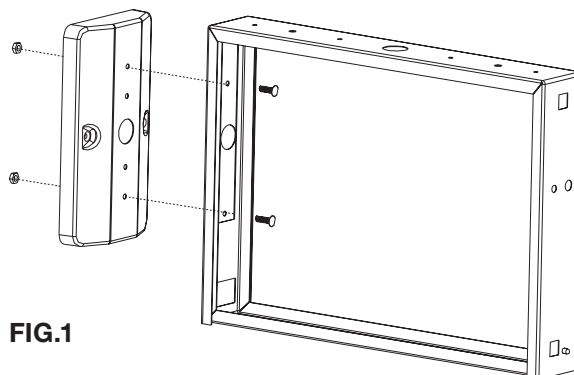

FIG.1
2. Remove the (3) KO's in either the side (for end wall mount) or top (for ceiling mount) of the fixture that lines up with the same holes on the CANOPY/J-BOX COVER. (Note: For CEILING MOUNT, you must remove the INTERNAL TRANSFORMER COVER on the inside top of the fixture. Please re-insert after installation.)
3. Using the (2) 1/2" long 8-32 screws and lock nuts, attach the canopy to the proper area of the exit sign (as shown in Fig. 1).
4. Mount sign to the J-BOX using the (2) 1-1/2" long 8-32 screws, making sure to route the AC SUPPLY wires into the fixture. Use the included 20" jumper wires if needed for this step.